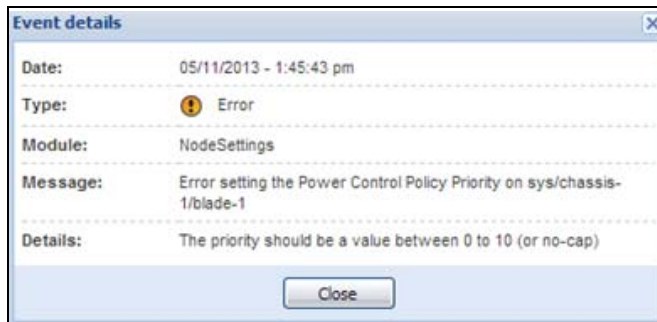

Figure 222. Wrong Power Budget Set
4. A wrong value has been set for the power budget (see Figure 222).